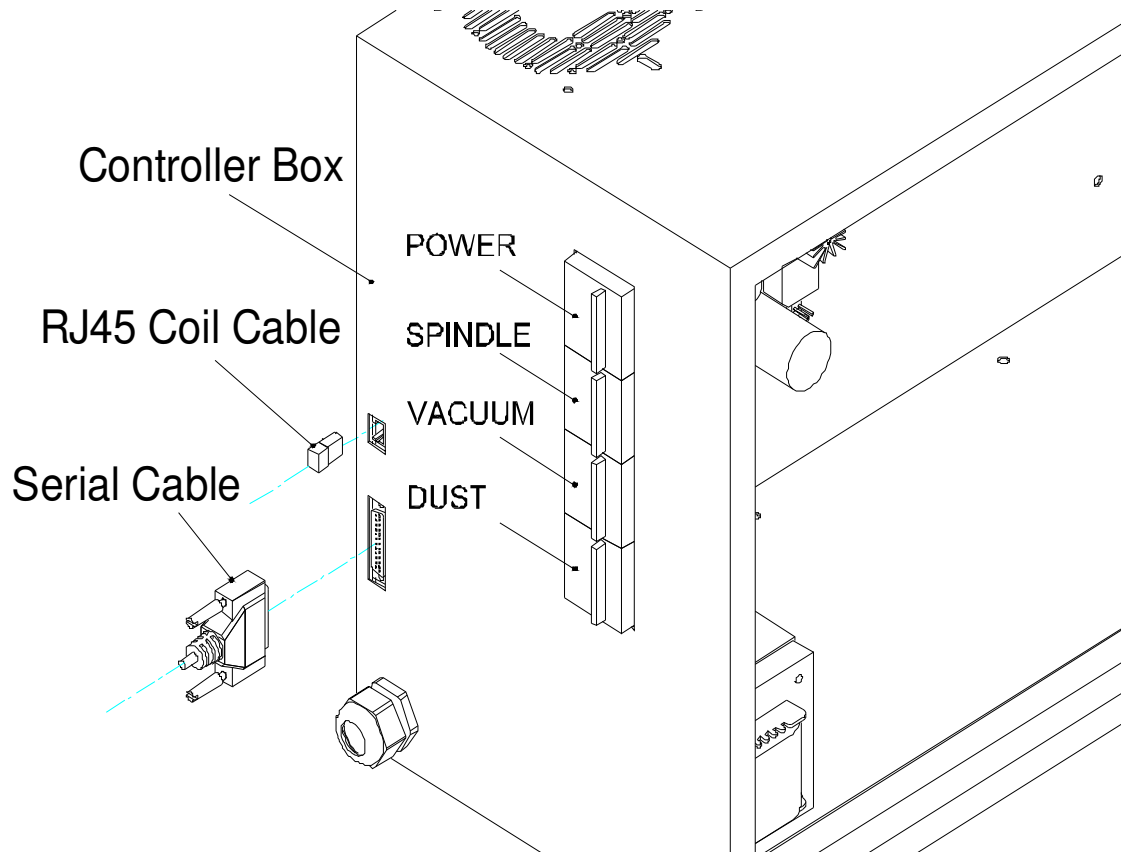

Figure 1
- 3- Step 3: Unplug Serial Cable (the one connected to computer) and unplug the RJ45 coiled cable (the one connected to remote control) (Figure 1).